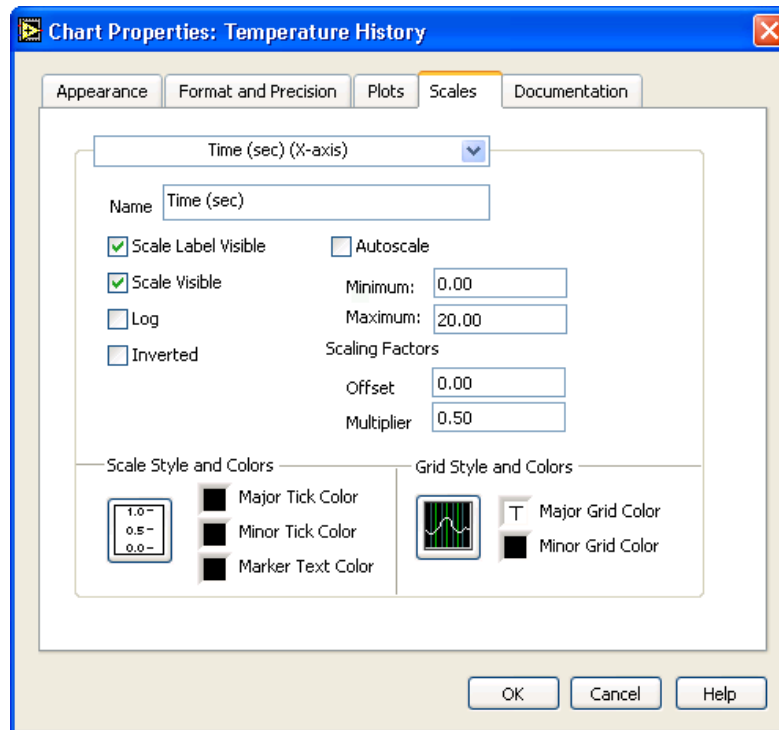

Figure 7.8
- d. Select the **Scales** tab and select the **Time (sec) (X-axis)** in the top pull-down menu. Set the scale options as shown in Figure 7.8. Set the **Multiplier** to 0.50 to account for the 500 ms Wait function.